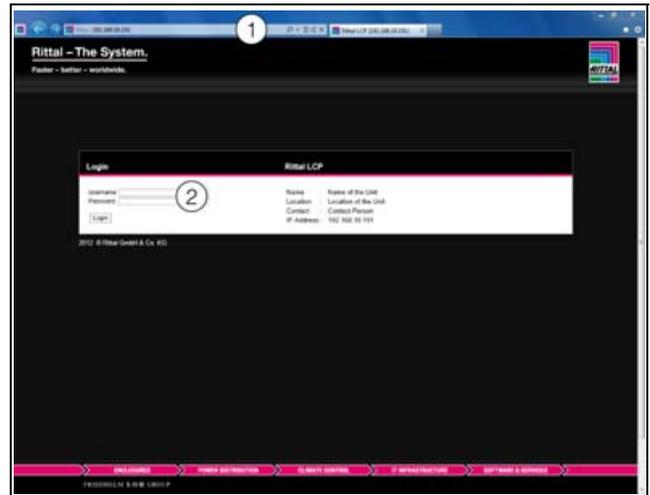

Fig. 48: Log-on screen with an HTTP connection
- In the browser, enter the address **http://192.168.0.190** (fig. 48, item 1). The log-on dialogue for registering the device will appear.
- Log in with the username **admin** and the password **admin** (fig. 48, item 2).